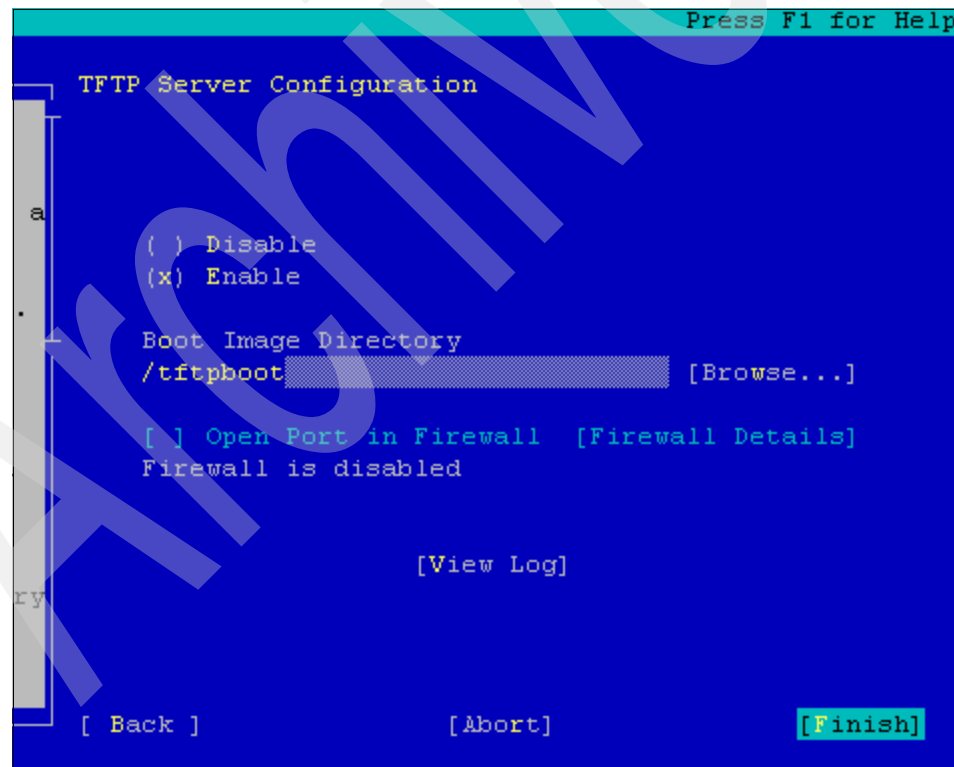

Figure C-1 Configure a TFTP server in SLES11
4. In the new window, select **Enable** and create **/tftpboot** in the Boot Image Directory section as shown in Figure C-1.